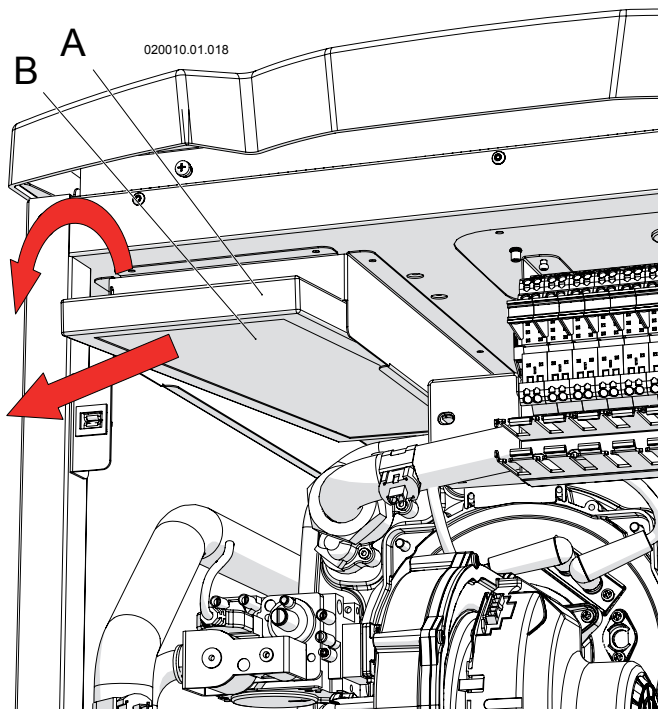

Figure 17-9 Remove the air filter "B"
2. pull down with a rotation the air filter "B" as per Figure 17-9